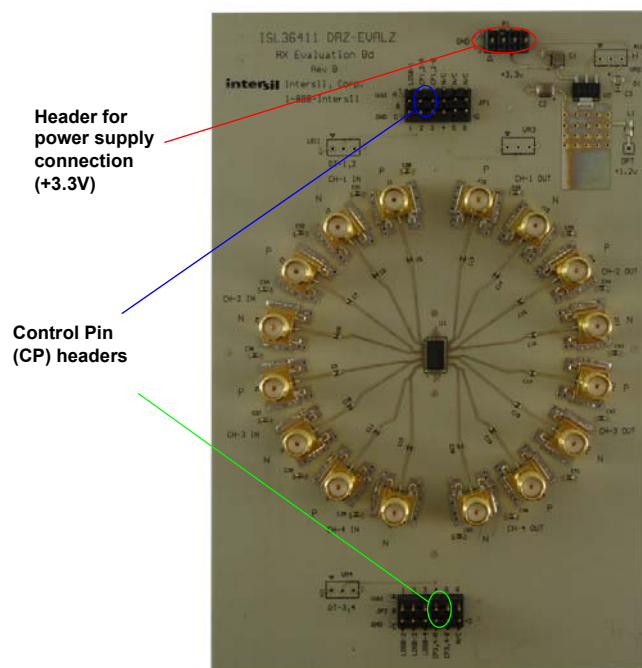
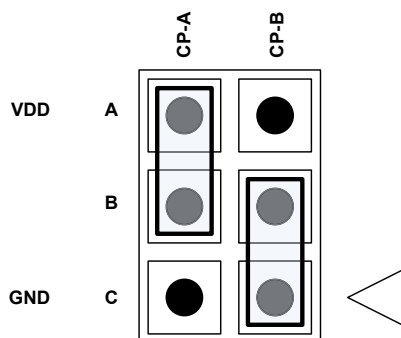

FIGURE 3. ISL36411DRZ-EVALZ EVALUATION BOARD
FIGURE 4. JUMPER CONFIGURATION TO ACHIEVE BOOST 7
This section describes the setup of the ISL36411DRZ-EVALZ evaluation board: making sure proper power is applied, connecting to the high-speed RF inputs and outputs, and adjusting the levels of loss compensation (boost) applied by the ISL36411's four equalizing filters. The board is shown in Figure 3.
Each of the four equalizing filters in the ISL36411 provide nine different levels (0 to 8) of adjustable loss compensation (or boost). The boost levels of Channels 1 and 2 are controlled simultaneously by the control pin (CP) headers located at JP1 on the north-side of the board and highlighted in blue in Figure 3. The boost levels of Channels 3 and 4 are controlled simultaneously by the control pin (CP) headers located at JP2 on the south-side of the board and highlighted in green in Figure 3. Boost levels are set by positioning jumpers on the appropriate header as illustrated in Figure 4 on page 3. For both sets of headers, CP-A and CP-B can each be set to one of three values (Vdd, GND, or Floating). Table 1 gives the jumper positions required to achieve various boost levels. As an example, Figure 4 depicts the jumper positions that set the filter compensation level to Boost 7 (CP-A = V_{DD} and CP-B = GND).